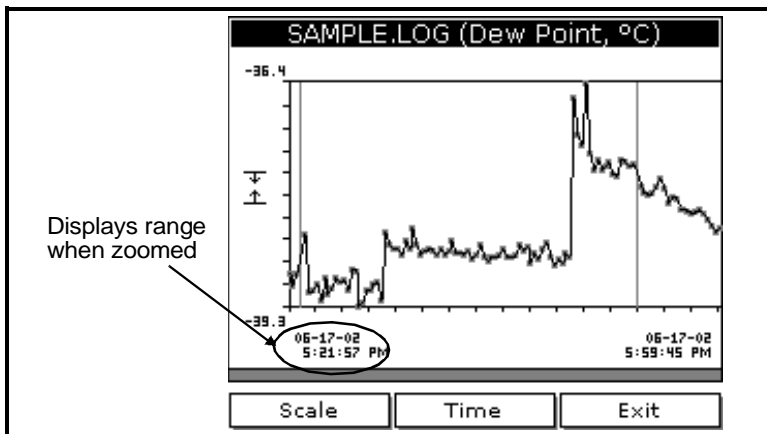

Figure 5-6: The Log Graph Display Window
2. Press [F3], View. A screen similar to Figure 5-6 below appears.
- To zoom in and out by 200%, press [▼] to zoom in and [▲] to zoom out. when zoomed, use the [◀] and [▶] keys to scroll through the graph. The screen displays the range when zoomed. See Figure 5-6 below.